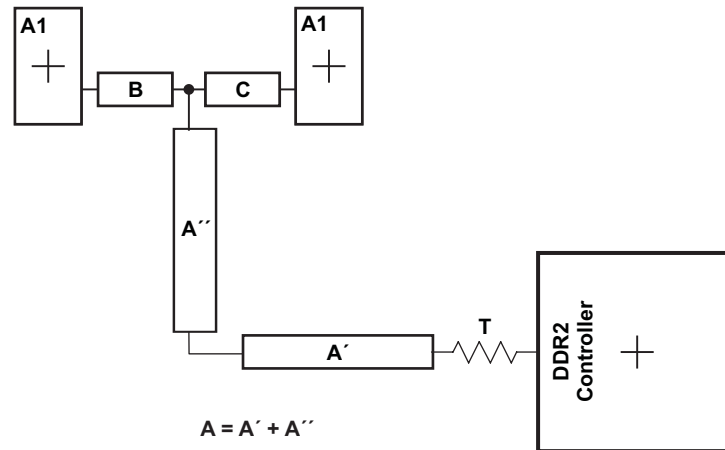

Figure 8-52. CK and ADDR_CTRL Routing and Topology
Figure 8-52 shows the topology of the routing for the CK and ADDR_CTRL net classes. The route is a balanced T as it is intended that the length of segments B and C be equal. In addition, the length of A ($A'+A''$) should be maximized.
(1) The length of segment $A = A' + A''$ as shown in Figure 8-52.
(2) Series terminator, if used, should be located closest to the processor.
(3) Center-to-center spacing is allowed to fall to minimum (w) for up to 500 mils of routed length to accommodate BGA escape and routing congestion.
(4) CACLM is the longest Manhattan distance of the CK and ADDR_CTRL net classes.